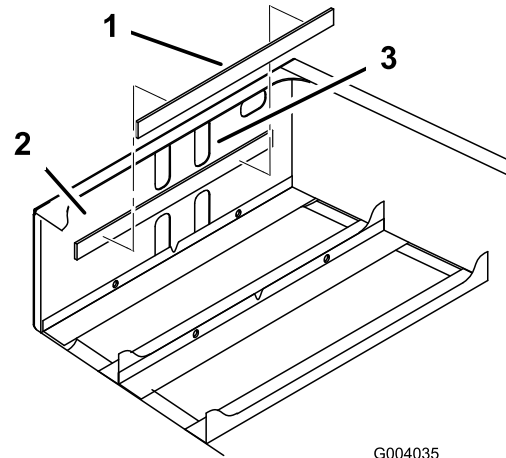

Figure 5
3. Remove the adhesive strip from the back of the battery pad and install it onto the front inside face of the rear frame (Figure 5).
**Note:** The pad should be approximately 6 mm (1/4 inch) below the bottom edge of the upper set of cutout holes (Figure 5).